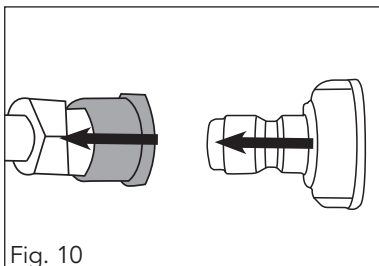

Fig. 10
1. Pull back and hold quick connector on lance (4) (fig. 10).